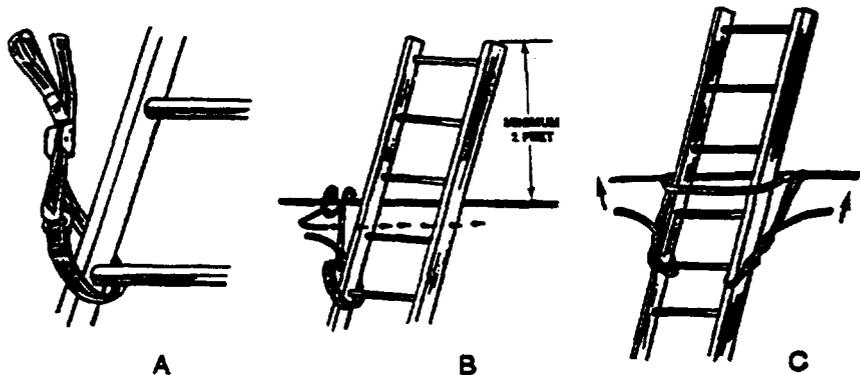

Figure 8-1. Securing Ladder to Strand, Using Top Ladder Lashing Device.
Although the design of these devices varies by manufacturer, the following installation should be used for maximum upper-end restraint as illustrated in Figure 8-1.
2. Attach one end of the device around the side rail, beneath the second rung, below the strand (Figure 8-1 A&B).